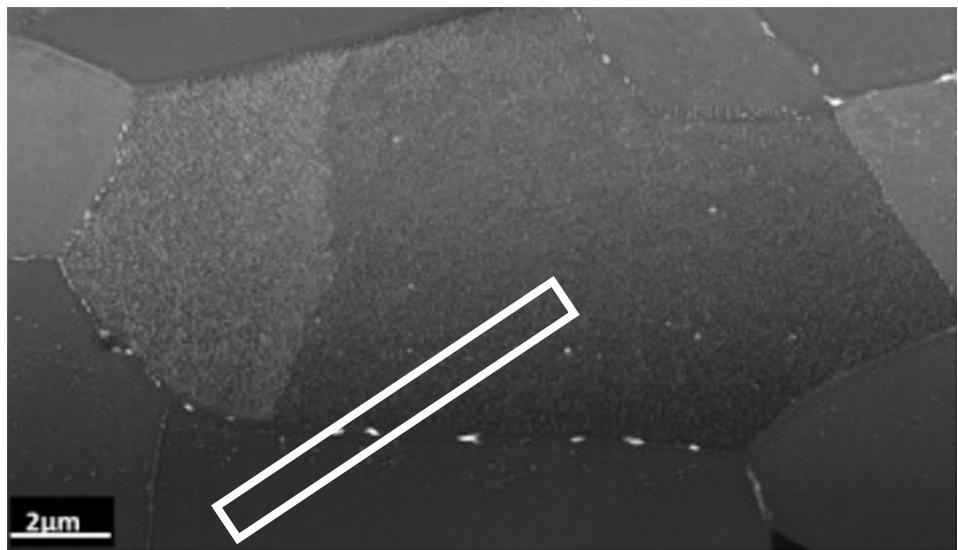

**Figure Q1c**
- (c) A Mo powder was ball milled for different times and analysed by powder XRD. The results are shown in Figure Q1c. Explain exactly what causes the observed changes to the shape of the X-Ray diffraction peaks. [5 marks]